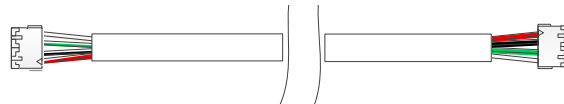

Figure 2 – Connector Cable IP150 to UC300
3. Plug in the UC300 to the IP150 using the IP150 panel port and the UC300 serial port. See Figure 2 for the proper cable.
3. Plug in the UC300 to the IP150 using the IP150 panel port and the UC300 serial port. See *Figure 2* for the proper cable.